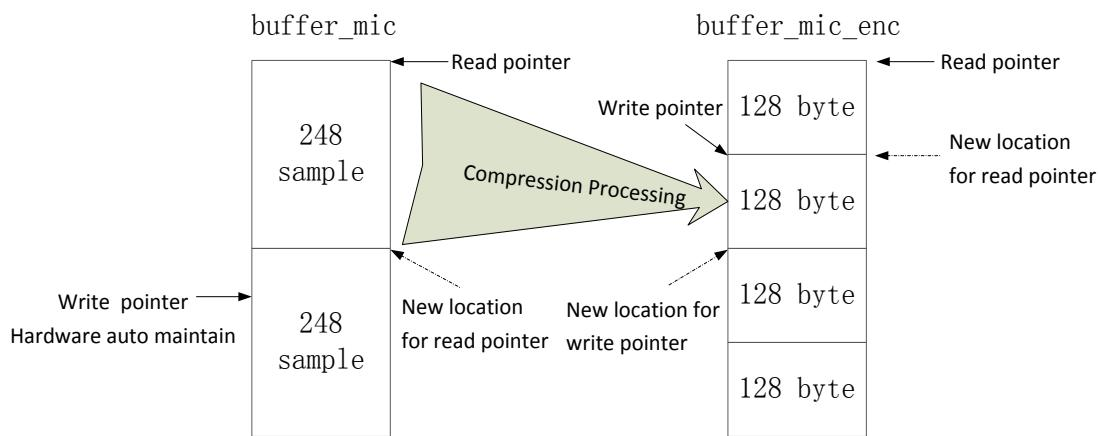

Figure6-3 Data compression processing
- ✧ “ps” points to the starting storage address for data before compression, which corresponds to the read pointer location of the buffer_mic as shown in Figure6-3;
- ✧ “len” is configured as “TL_MIC_ADPCM_UNIT_SIZE (248)”, which indicates 248 samples;
- ✧ “pds” points to the starting storage address for compression result data, which corresponds to the write pointer location of the buffer_mic_enc as shown in Figure6-3.